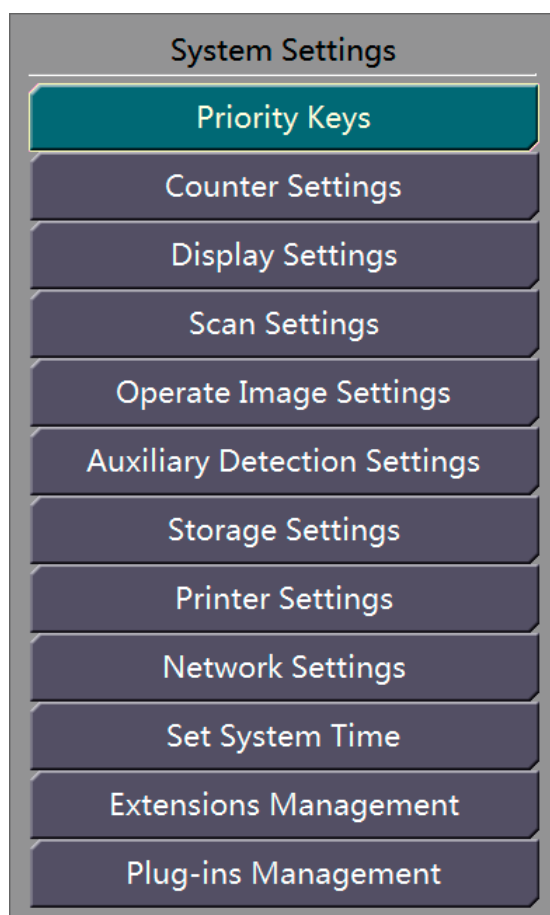
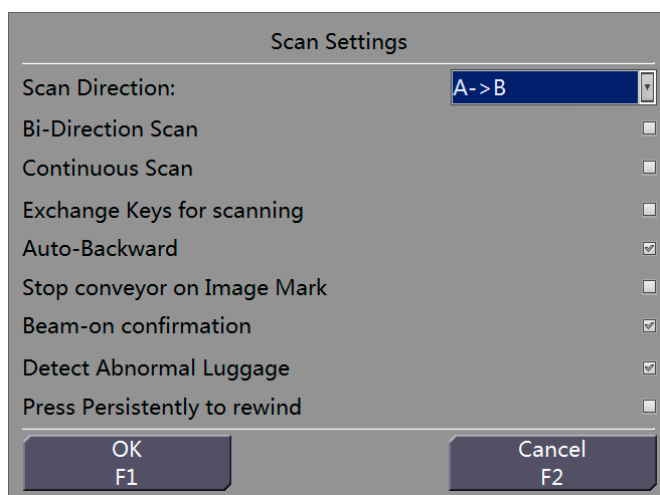

Figure 18-1 System Settings Interface
Figure 18-10 Scan Settings Interface
Step 1 Choose System Settings from the main menu in Figure 14-1 to display the System Settings interface, as shown in Figure 18-1.
Step 1 On the interface shown in Figure 18-1, choose Scan Settings or press the Increase key on the operation keyboard to display the Scan Settings interface, as shown in Figure 18-10.